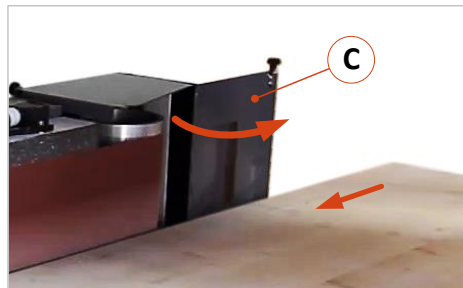

Figure 36: Open right cover (C)
- ⇒ Figure 36: Open the protective cover (C) and fasten it in the maximum open position.
- Hold the workpiece against the sanding belt and move it along the sanding belt from right to left until it is sanded cleanly (see direction of arrow in ⇒ Figure 36).